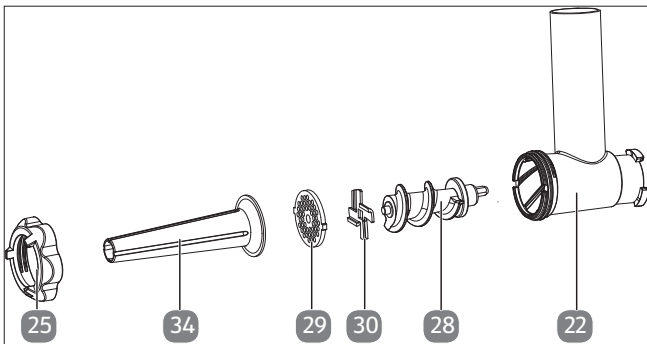

Fig. 20 – Mincing/making sausages
1. To mince pieces of meat and make sausage in a single operation, fit the mincer with perforated blade disc and cross blade with the sharp edges facing outwards towards the axis and the sausage filling nozzle (see Fig. 20).